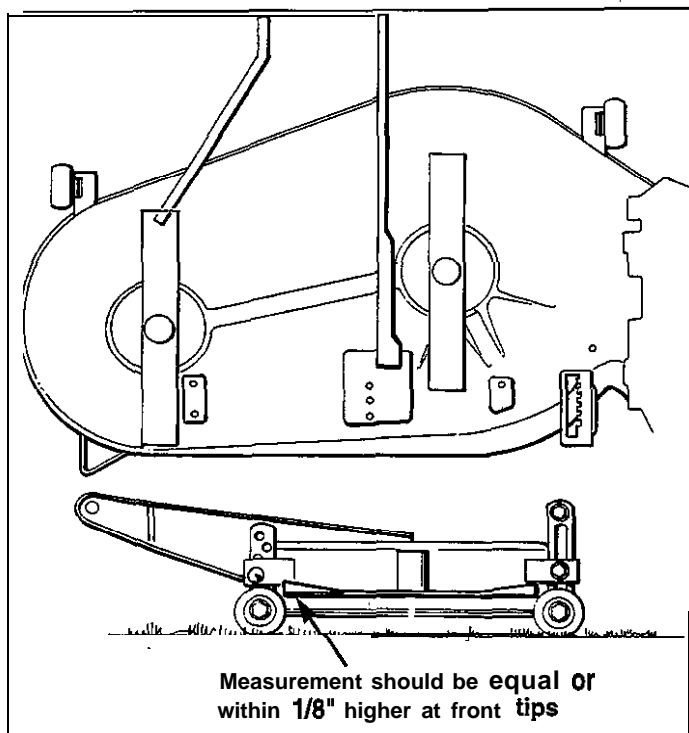

Figure 26. Leveling the Mower Deck Front-to-Back
- Arrange the blades so they face front-to-back (figure 26).
- See figure 26. Measure the distance from the ground to the front and rear tips of each blade. The measurement should be equal for both blades. Front tips should be equal to rear tips or within $\frac{1}{8}$ " higher. If not, proceed to step 8.